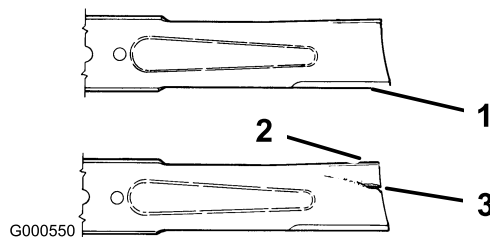

Figure 35
2. Inspect the cutting edges (Figure 35). If the edges are not sharp or have nicks, remove the blade and sharpen them; refer to Sharpening the Blade.
3. Inspect the blade, especially the curved area (Figure 35). If you notice any damage, wear, or a slot forming in this area (Figure 35), immediately install a new blade.